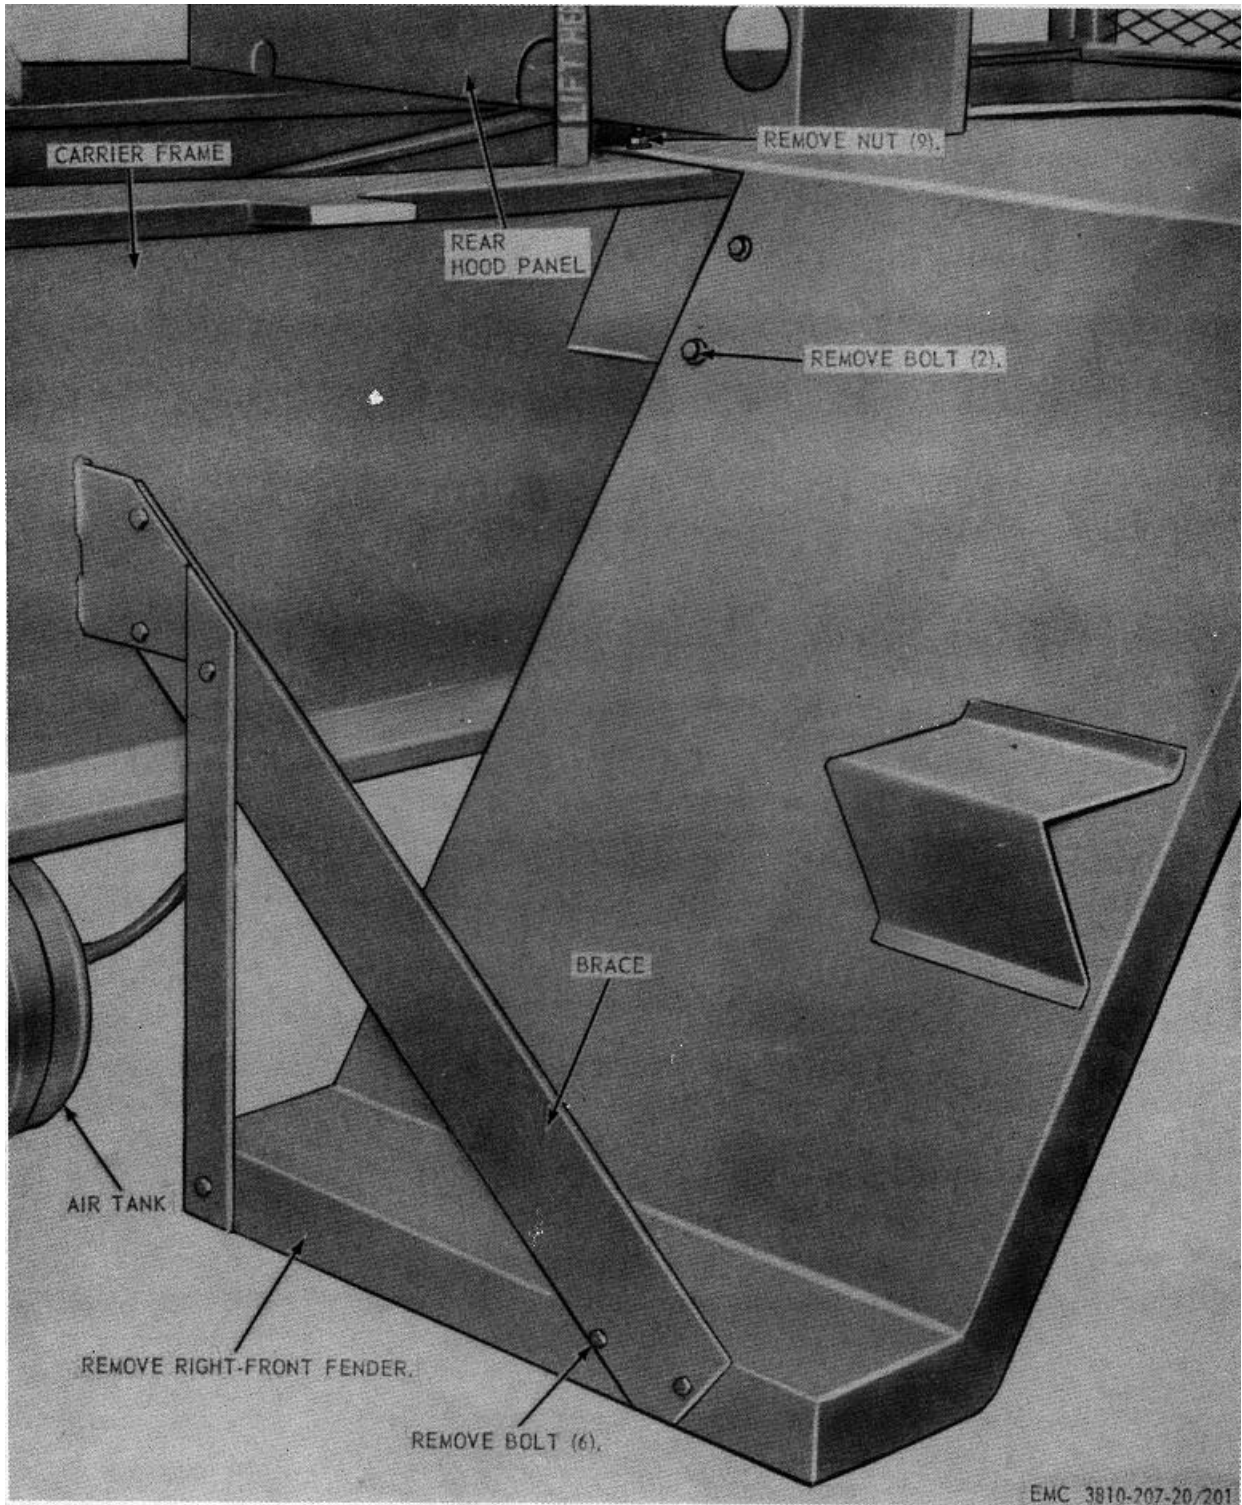

Figure 201. Carrier right-front fender, removal and installation.
- (1) Remove the battery box (par. 209).
- (2) Remove the engine hood and side panel (par. 321).
- (3) Remove the sand shield (par. 320).
- (4) Remove the right-front fender as instructed on figure 201.
- (1) Install the right-front fender as illustrated on figure 201.
- (2) Install the sand shield (par. 320).
- (3) Install the engine hood and side panel (par. 321).
- (4) Install the battery box (par. 209).